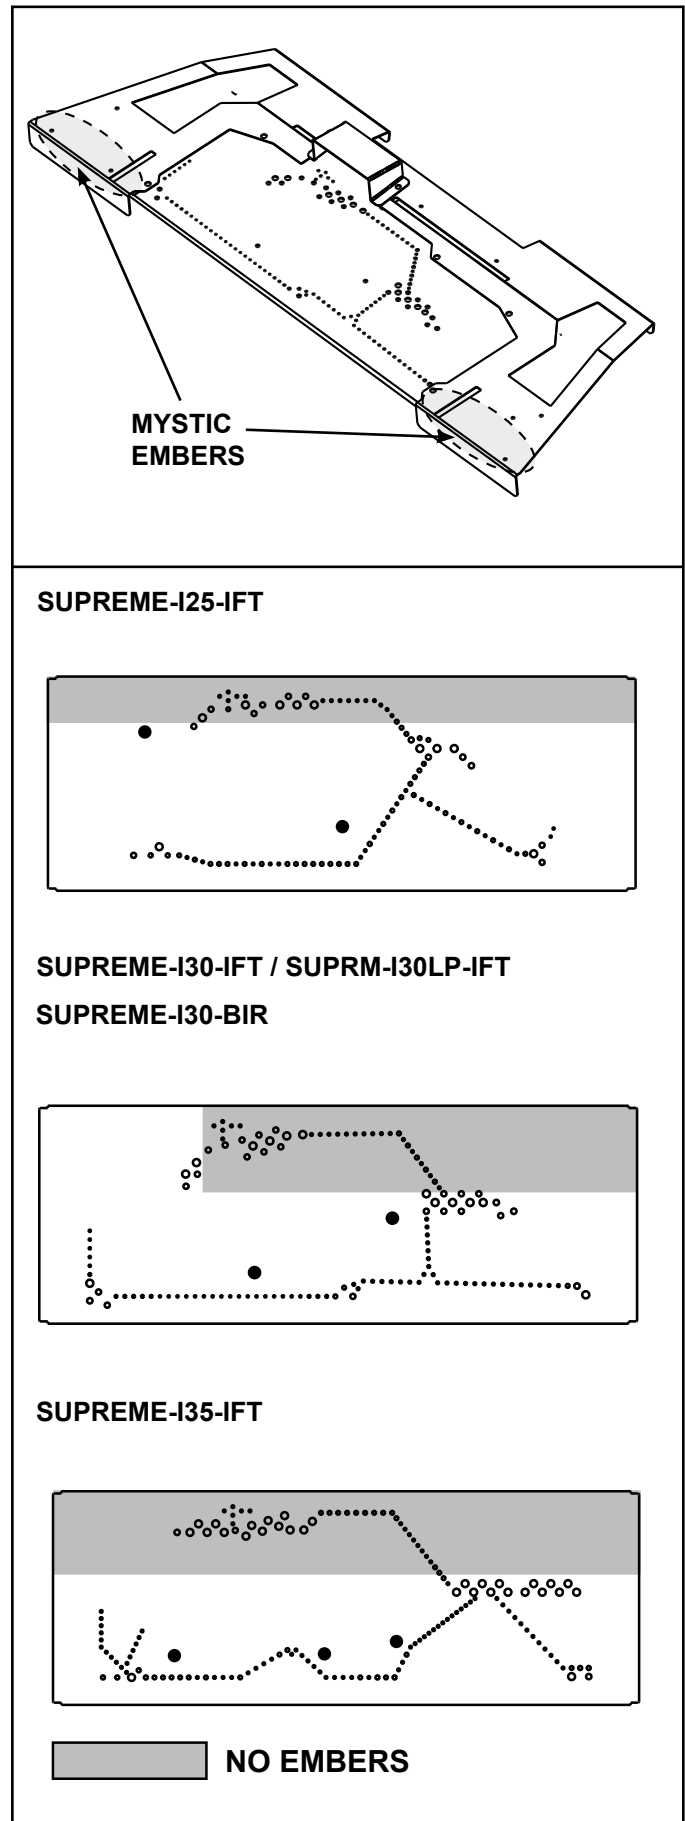

Figure 9.3 Placement of Embers
- Use mystic embers to mask transition between base refractory and base pan. See Figure 9.3.
- Embers **CANNOT** be placed directly over burner ports that are indicated in Figure 9.3 or in pilot area as indicated in Figure 9.3.
- Embers may be placed on the ports in areas indicated in Figure 9.3. These embers must be placed loosely over the port holes, not pressed down on or into the holes. Create a single layer, no more than 1/4 inch thick.